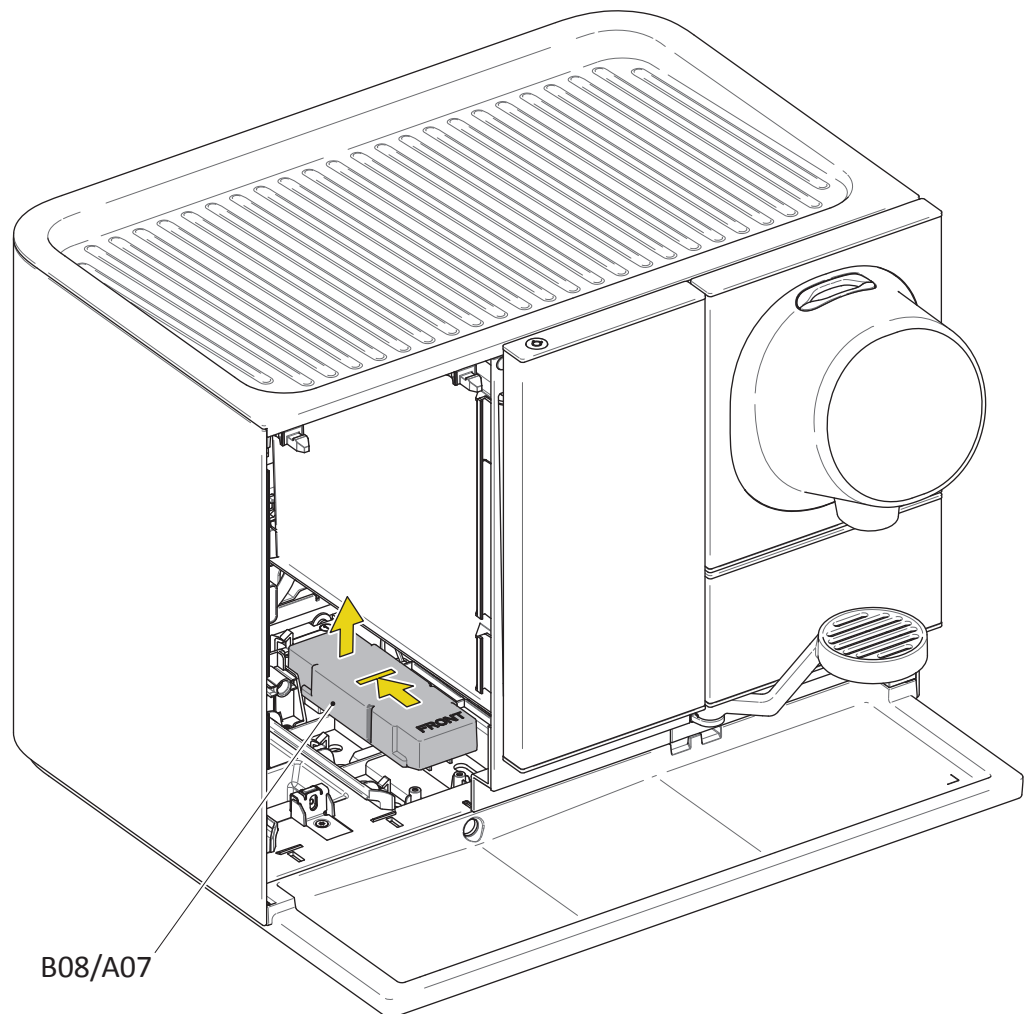

Fig. 27
1. Remove the EMC PCB lid (B08/A07) → Fig. 27 on p. 56.